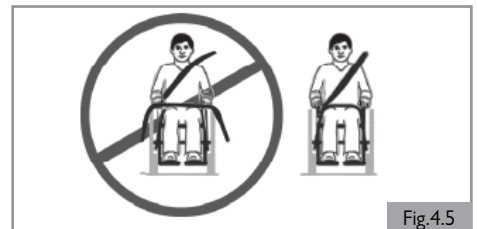

Fig.4.5
20. Restraint belts must be adjusted as tightly as possible consistent with user comfort, and should not constrict breathing (Fig. 4.5).